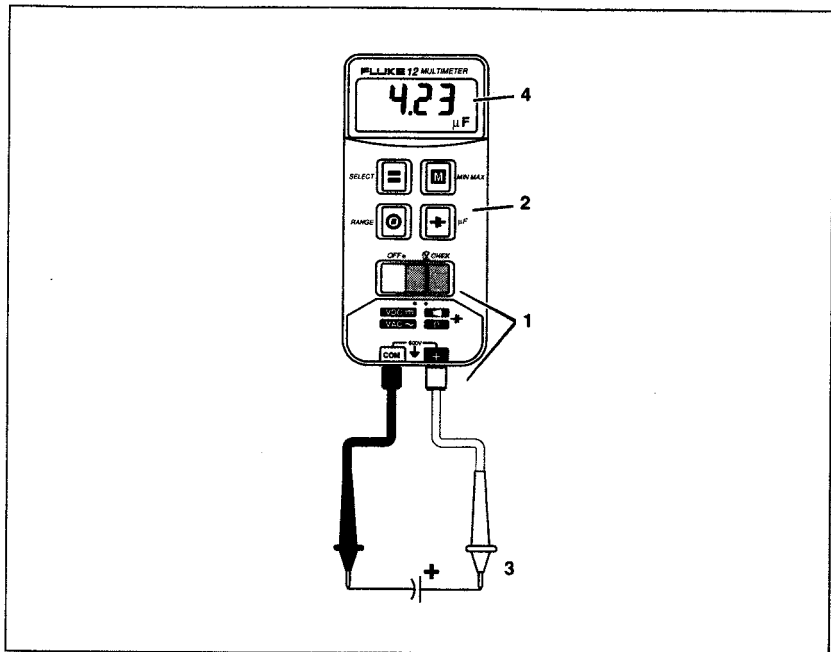

Figure 6. Measuring Capacitance
1. Insert test leads, and move the slide-switch to ⇄. (See Figure 6.)